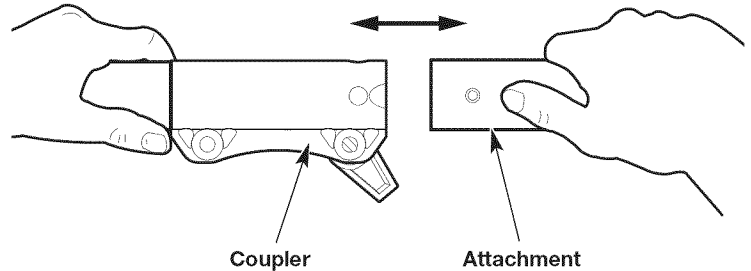
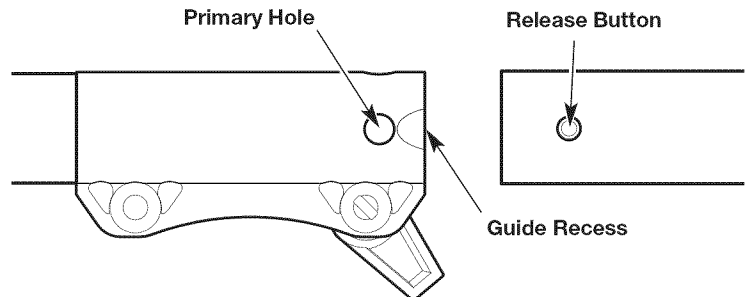

Fig. 7
Fig. 8
4. Align the release button with the guide recess (Fig. 8).
5. Push the attachment straight into the coupler (Fig. 7) until the release button snaps firmly into the primary hole (Fig. 8).
3. Press and hold the release button (Fig. 8).
4. Pull the attachment straight out of the coupler (Fig. 7).